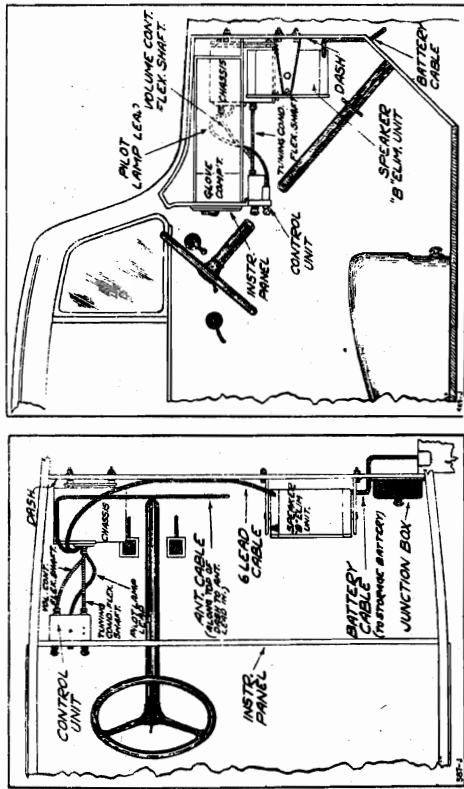
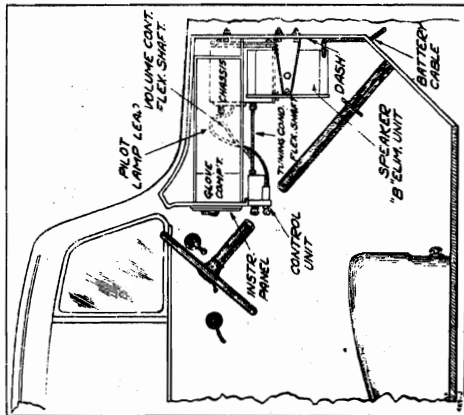
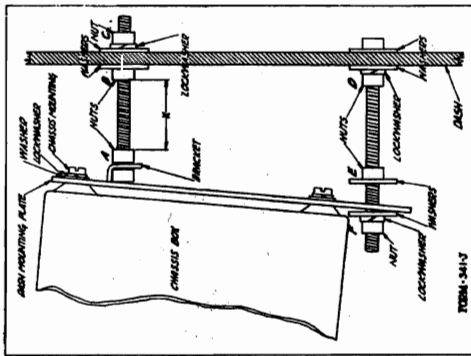

Fig. 1 - General Installation - Top View
Fig. 2 - General Installation - Side View
Fig. 4—Details of Chassis Mounting on Dash after which the lockwashers and nuts are then put on.
Before mounting the chassis read the articles on "Mounting the Control Unit" and "Attaching the Flexible Drive Shafts." Hold the control unit in position or mount it in place temporarily, so that the position of the flexible shafts can be determined. The chassis is mounted in back of the dash at the left side, as shown in Fig. 1. It should be mounted in such a way that the tuning condenser flexible drive shaft to the control unit will be in substantially a straight line as shown in Figs. 1 and 2. The chassis is mounted with the anchor bushings in which the flexible shafts go, facing the control unit, and with the cover at the bottom. It is secured to the dash by means of the dash mounting plate, see Fig. 4. In some of the earlier models it will be necessary to move the out-out box to a higher location in order to mount the chassis.
First drill the three mounting holes required for the dash mounting plate. The location and size of these holes is shown in Fig. 3. A template for drilling these holes is supplied with the set. Three 4" square head mounting bolts are supplied. Take two of these, which will be used for the rear part of the mounting plate and screw on nut "A" (see Fig. 4). The nut should be just far enough away from the head of the bolt to permit the bracket of the mounting plate to slip down as shown in the illustration.
The four mounting screws pass through the four slots in the mounting plate (Fig. 3). After they are in place and tight, the dash mounting plate with chassis attached is slipped over the three mounting bolts. The two upper brackets on the plate slip down in back of nut "A" as shown in Fig. 4 and the
The control unit is mounted to the instrument panel as shown in Figs. 1 and 2. In the 1932 and 1933 models there are two holes on the flange at the bottom of the instrument panel on the left side, which line up with the two holes on the mounting lugs of the control unit. In the earlier models, it will be necessary to drill these holes. Two 1/4" holes with centers 4 7/8" apart are required. The best location
for these holes is at a point where the tuning condenser flexible drive shaft to the chassis will be in substantially a straight line (see Figs. 1 and 2). Before mounting the control unit permanently attach the flexible shafts, as explained in the next article, and attach the pilot lamp plate to the bottom of the unit, as explained in the article on "Completing the Wiring Connections."
The speaker-"B" eliminator is mounted on the back of the dash by means of two brackets as shown in Fig. 5. The best location is at the right side of the dash under the glove compartment as shown in Figs. 1 and 2. It should be mounted with the bracket at the side as shown in (A) Fig. 3, and with the inner bracket mounting holes as indicated in (B) Fig. 5. The box is mounted with the tone control knob at the upper left, as shown in Fig. 1. The
Two flexible shafts are supplied with the Cadillac and LaSalle cars, one 9" and one 12" long. The 9" shaft is the tuning condenser flexible shaft, and is put on in substantially a straight line, as shown in Figs. 1 and 2. The 12" shaft is the volume control shaft. This shaft bends upward from the control unit, as shown in Fig. 2.
As shown in Figs. 1 and 2, the battery cable is brought down the dash, through a hole in the dash and thence over to the battery. It passes through the raised portion of the battery compartment cover.
The six-lead cable between the chassis and the speaker—"B" eliminator is usually brought over along the dash as shown in Fig. 1.